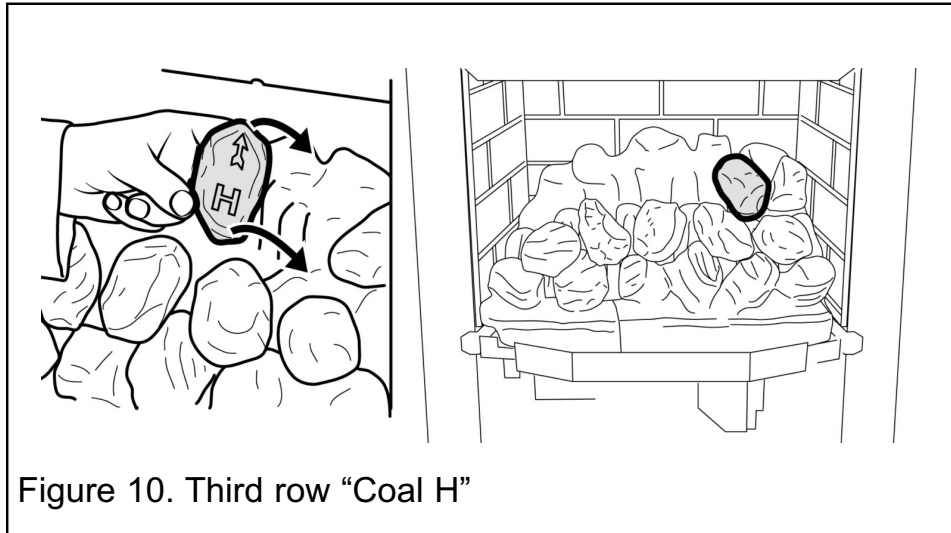

Figure 10. Third row "Coal H"
**12.** Hold coal 'H' upright with the arrow pointing to the top. Locate coal 'H' as shown in figure 10.